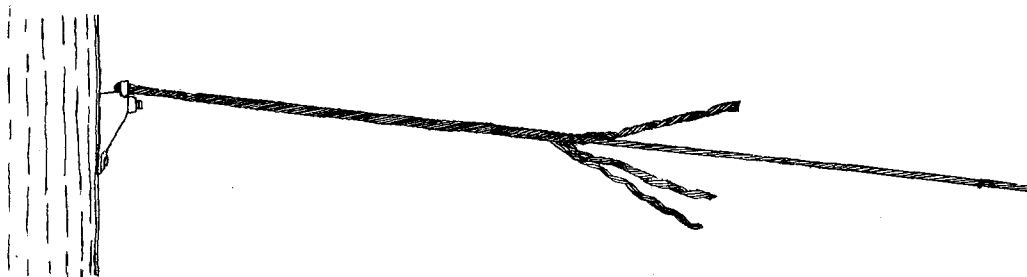

Fig. 10—Split Shorter Leg
- (g) Split the short leg first (Fig. 10) and apply. Repeat with the second leg.